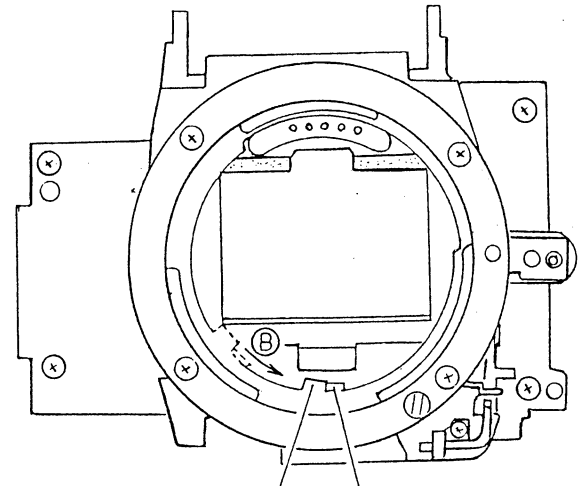

Fig.89
3) Install the F.Gear Holder Ass'y (168A3200) with the FC Lever and FC Ring in the Mirror Box positioned in the direction of the arrow (B) (open position). (See Fig.89)